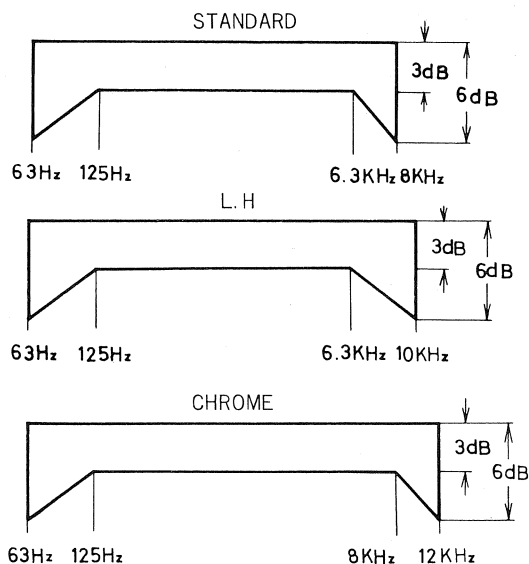

Fig. 26
9. Fig. 26 shows specified frequency response for each tape.